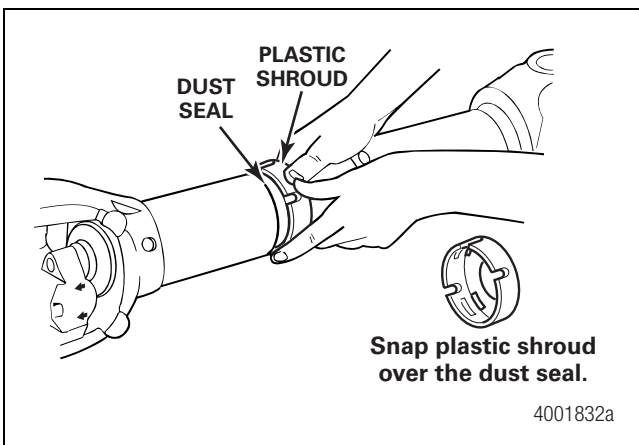

Figure 4.24
- Snap the plastic shroud over the seal. Figure 4.24.